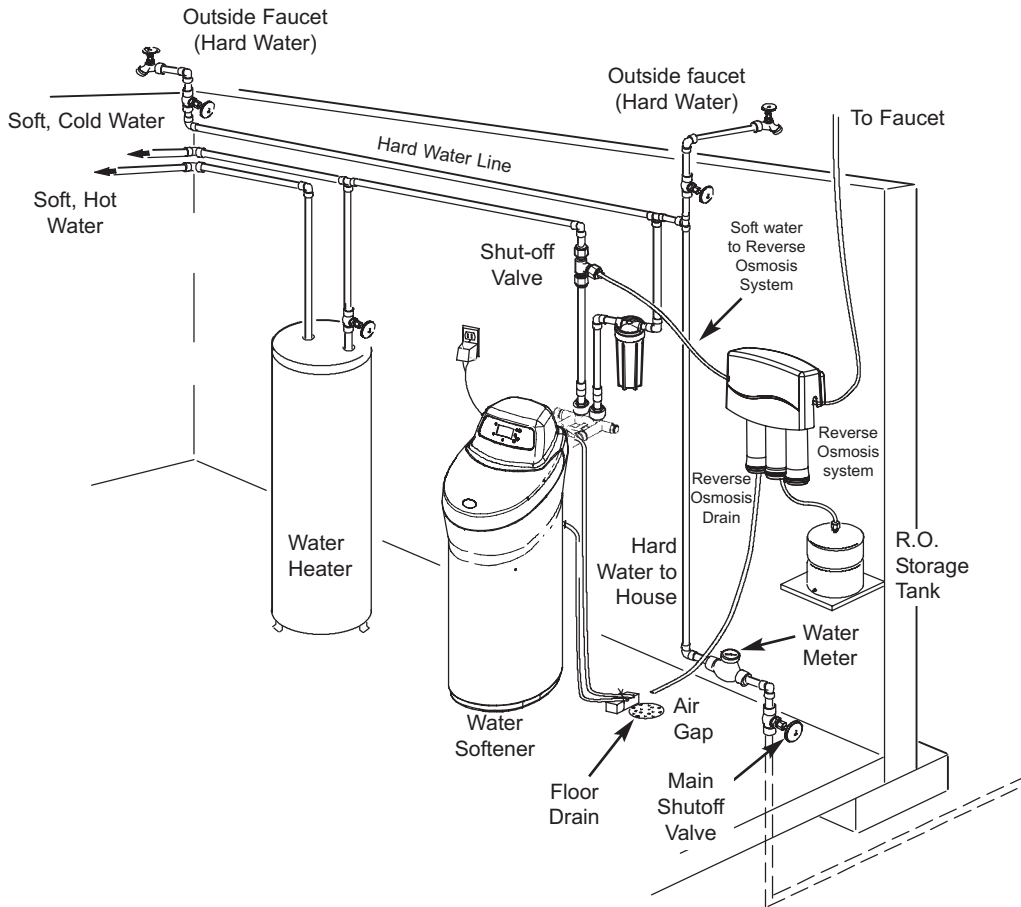

FIG. 3
1. Place as close as possible but always after, the pressure tank (well water) or water meter (city water). See Fig. 3.
2. Place as close as possible to a water drain such as a floor drain, laundry tub, sump or standpipe. See Fig. 3.
3. Connect to the house main water pipe BEFORE THE WATER HEATER. See Fig. 3. **Temperature of water going through the softener must not be more than 120°F (49°C).** Hot water will damage inner softener parts. *To reduce the risk of hot water backup*, piping between the softener and water heater should be as long of a run as possible.
4. Keep outside faucets on hard water to save soft water and salt. See Fig. 3.
7. A grounded, 120V electrical outlet is needed within 10 feet of the softener. See Fig. 3. This is to plug in the transformer. The softener has a 10 foot power cable. **Be sure the outlet and transformer are in an inside place, to protect from wet weather.** Use a continuously "live" outlet, which cannot be accidentally switched off.